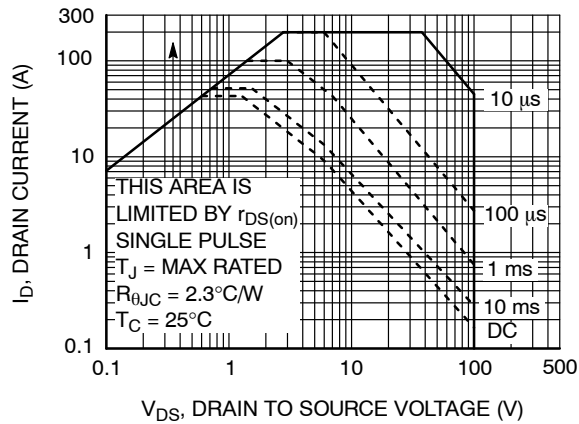

Figure 11. Forward Bias Safe Operating Area
- Pulse I_d refers to Figure.11 Forward Bias Safe Operation Area.